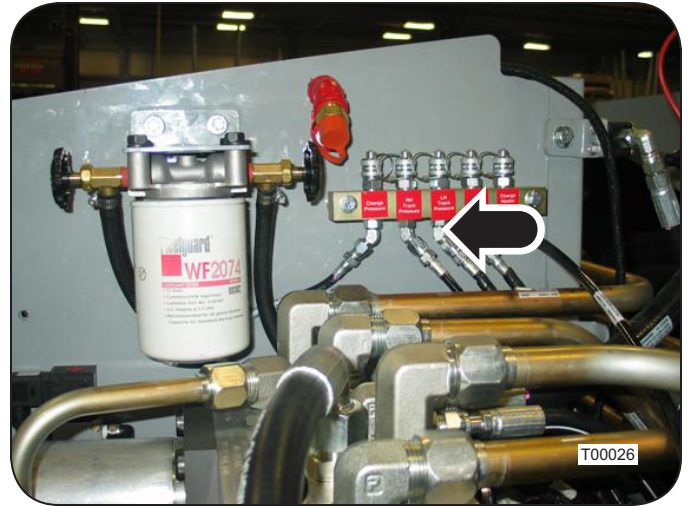

Figure 1: Drive Charge Pressure Gauge Port Tap
3. Connect the 600 psi pressure gauge, with the quick-couple adapter attached, to the gauge port tap provided on the centralized pressure check manifold. See Figure 1.